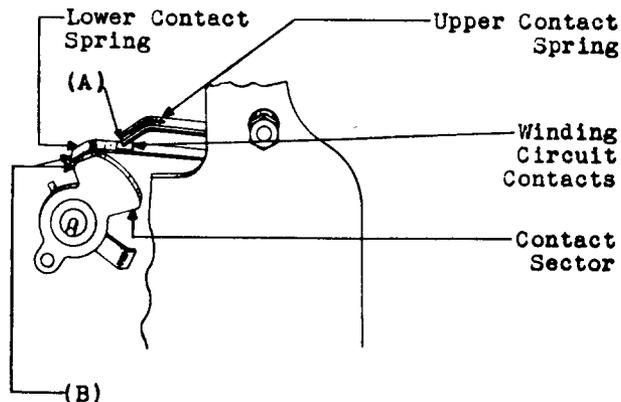

Fig. 4 - Winding Circuit Contacts
- *2.11 Contact Separation - Fig. 4 (A): The contact separation between the winding circuit contact springs, when in their normal position, shall be approximately 1/32". Gauge by eye.
- *2.12 Alignment of Contact Spring and Contact Sector - Fig. 4 (B): With the contact sector about to touch the lower contact spring, the tip of the spring shall be approximately even with the edge of the incline of the contact sector. Gauge by eye.